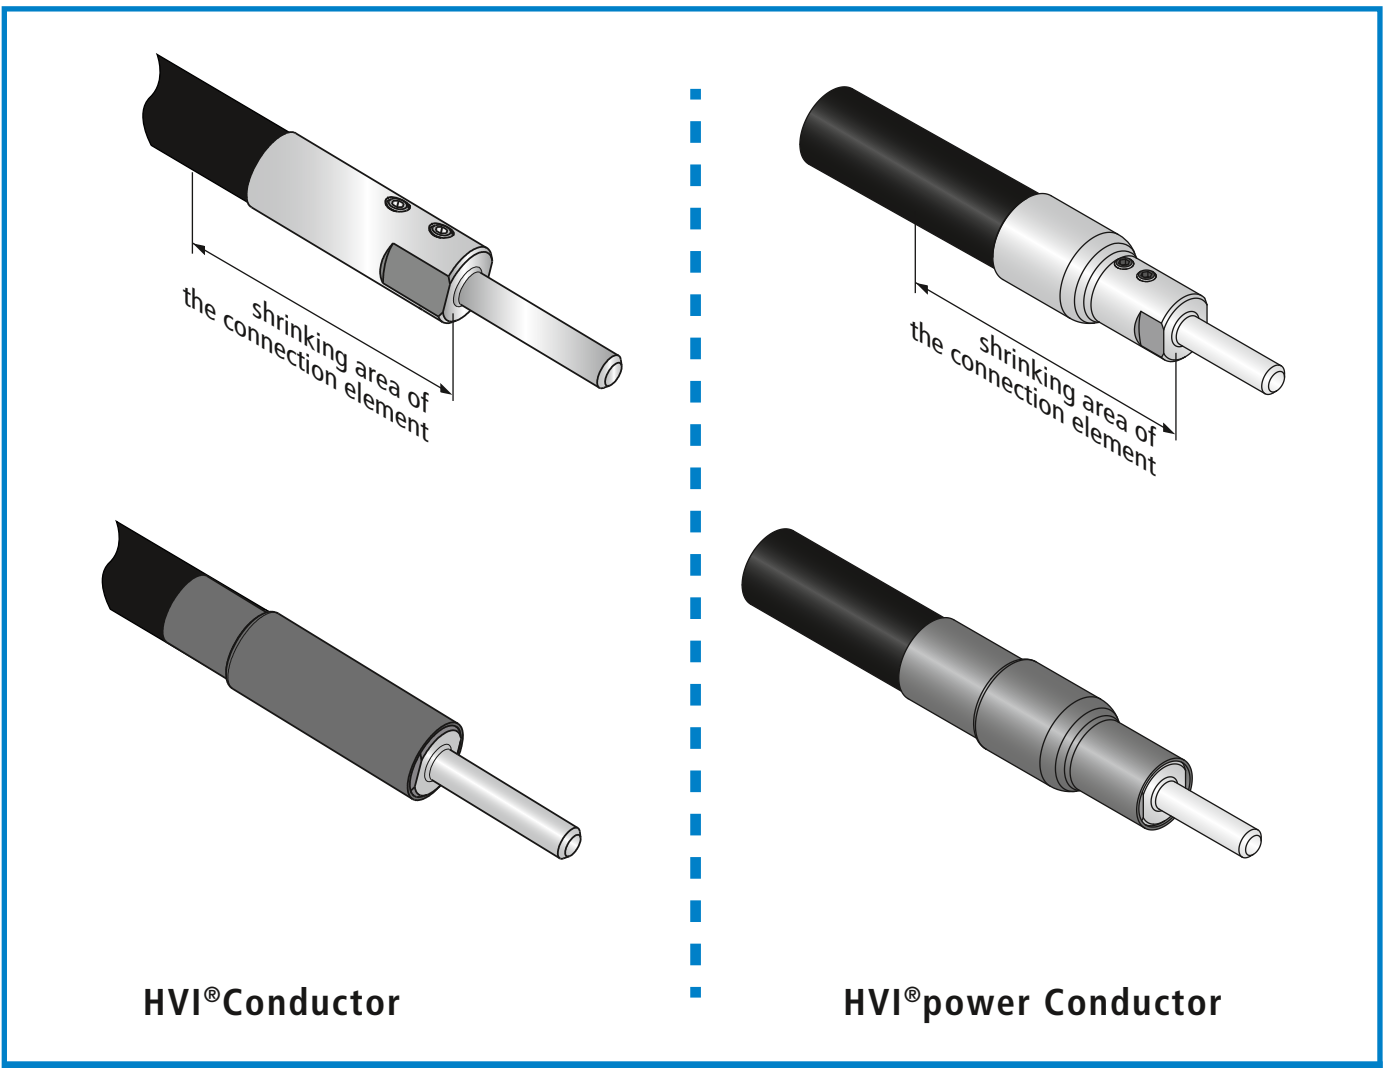

Fig. 6 Wrapping a heat shrinkable sleeve around the connection element
- The indicated shrinking area between the connection element and the **HVI®Conductor/HVI®power Conductor** must be observed (Fig. 6, page 13).